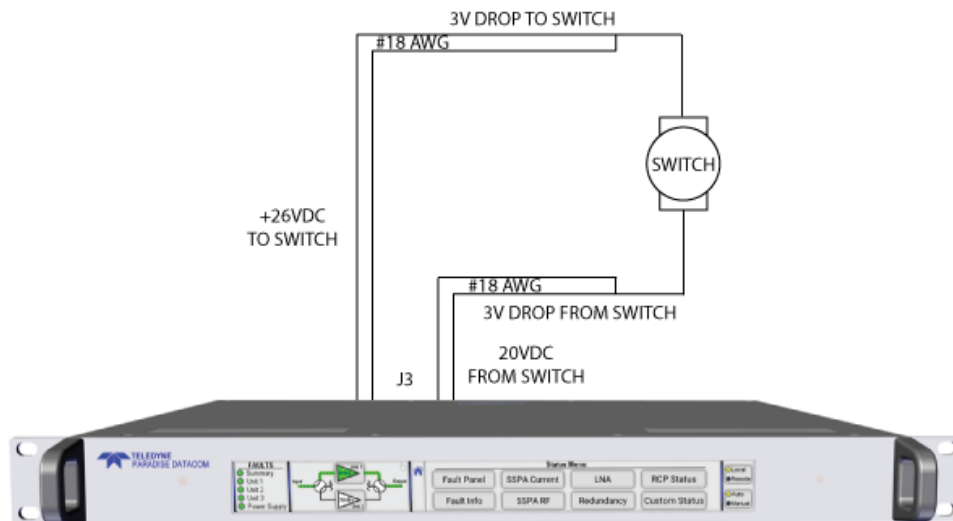

Figure 7: Cable Losses to Transfer Switch
Teledyne Paradise Datacom control cables utilize 20 conductors of #18 AWG stranded wire. The control cable schematic is shown in Figure 7. The resistance of #18 AWG stranded wire is 6.5 ohms per 1000 feet. The controller switch connector (J3) allows contacts for two wires per switch connection. Therefore, two conductors can be paralleled for both the source and return lines for the transfer switch. With a maximum allowable voltage drop of 6 volts, this equates to a 3 volt drop in the source wires and 3 volt drop in the return wires. This is shown schematically in Figure 7. Using four (4) parallel #18 AWG conductors gives a resultant cable resistance of 1.6 ohms per 1000 feet, or 0.0016 ohms per foot.